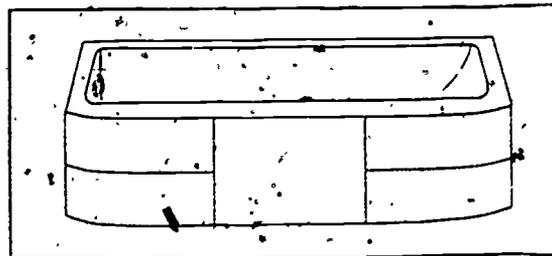

Figure 2-19 Built-in bathtub.
**Types of bathtubs.** There are several types of bathtubs on the market today. Some of them are the recessed, corner-recessed, sunken, and the leg type. Tubs are made in several sizes, ranging from 4 to 6 feet in length, and are designated as right- or left-hand tubs, depending on the location of the drain. When you face the tub, if the drain is on the right end, it is a right-hand tub; if it is on the left end, it is a left-hand tub. Most bathtubs today are made of enameled cast iron or enameled pressed steel. The design most commonly used is the built-in type, shown in figure 2-19.